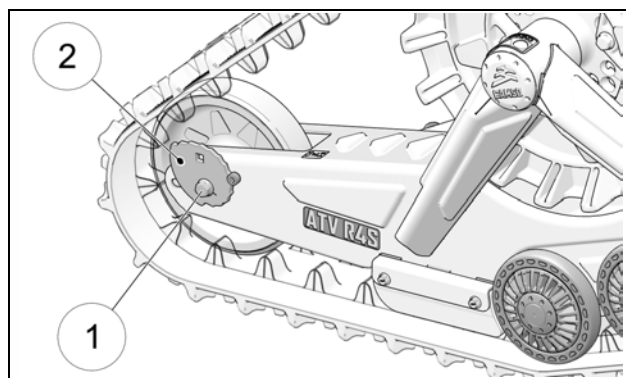

Figure 24
- Loosen both tensioner-side wheel shaft bolts (1) to allow tensioner cams (2) to turn. Figure 24.